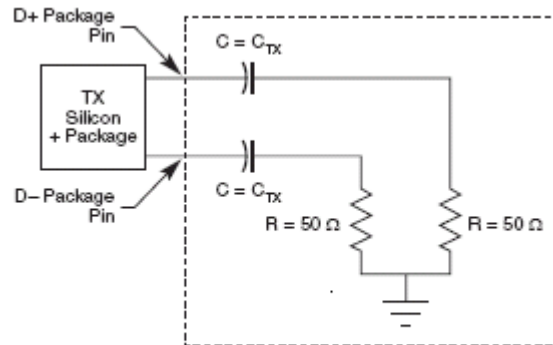

Figure 50. Compliance Test/Measurement Load
1. Specified at the measurement point into a timing and voltage compliance test load as shown in Figure 50 and measured over any 250 consecutive TX UIs.
1. Specified at the measurement point and measured over any 250 consecutive UIs. The test load in Figure 50 should be used as the RX device when taking measurements. If the clocks to the RX and TX are not derived from the same reference clock, the TX UI recovered from 3500 consecutive UI must be used as a reference for the eye diagram.
2. Specified at the measurement point into a timing and voltage compliance test load as shown in Figure 50 and measured over any 250 consecutive TX UIs.
2. Specified at the measurement point and measured over any 250 consecutive UIs. The test load in Figure 50 should be used as the RX device when taking measurements. If the clocks to the RX and TX are not derived from the same reference clock, the TX UI recovered from 3500 consecutive UI must be used as a reference for the eye diagram.
The AC timing and voltage parameters must be verified at the measurement point, as specified within 0.2 inches of the package pins, into a test/measurement load shown in Figure 50.